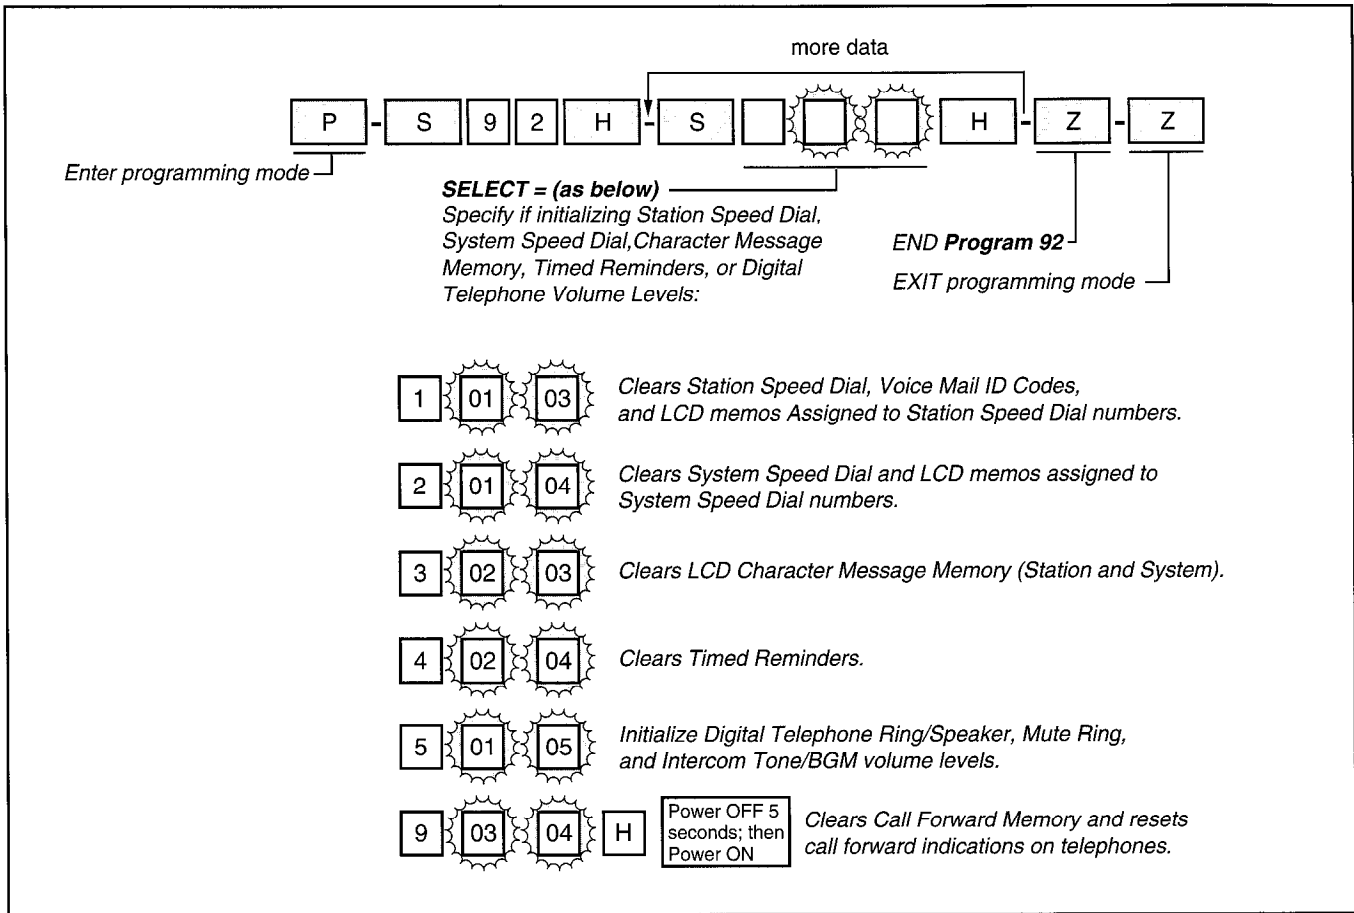

FIGURE 1-4
3.36 Initialize Speed Dial Numbers, Voice Mail Identification Codes, Character Message Memory, Timed Reminders, Digital Telephone Volume, and Call Forward Backup Memory with Program 92. Complete this step if the system is being installed for the first time, or when all currently programmed Speed Dial numbers or the like must be deleted. Follow the steps in Table 1-D and refer to Figure 1-4.